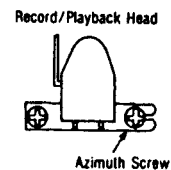

Fig. 2
<p>How to check the main P.C.B.</p> <ul style="list-style-type: none"> • When checking the soldered surfaces of main P.C.B. and replacing the parts, do as show. <ol style="list-style-type: none"> 1. Remove the 9 screws (①, ③, ⑥~⑪) in above figure. 2. Remove the 6 screws (⑫~⑰). 3. Remove the front panel ass'y in the direction of arrow A.  	<ol style="list-style-type: none"> 4. Remove the bottom board ass'y in the direction of arrow B. 5. Reinstall the front panel ass'y to the main P.C.B.